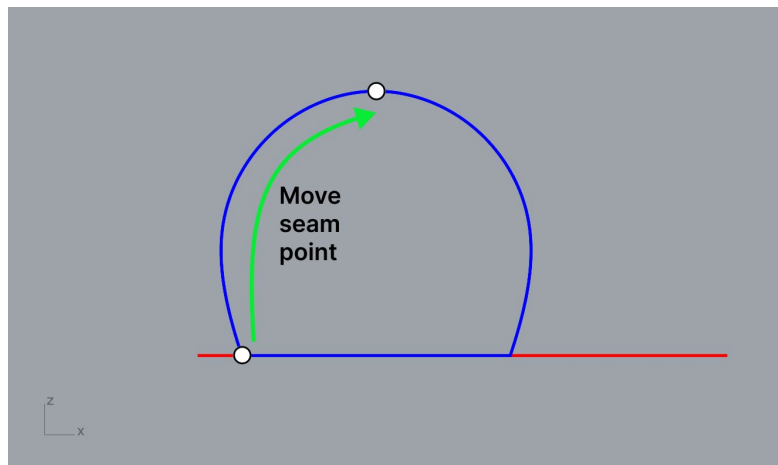
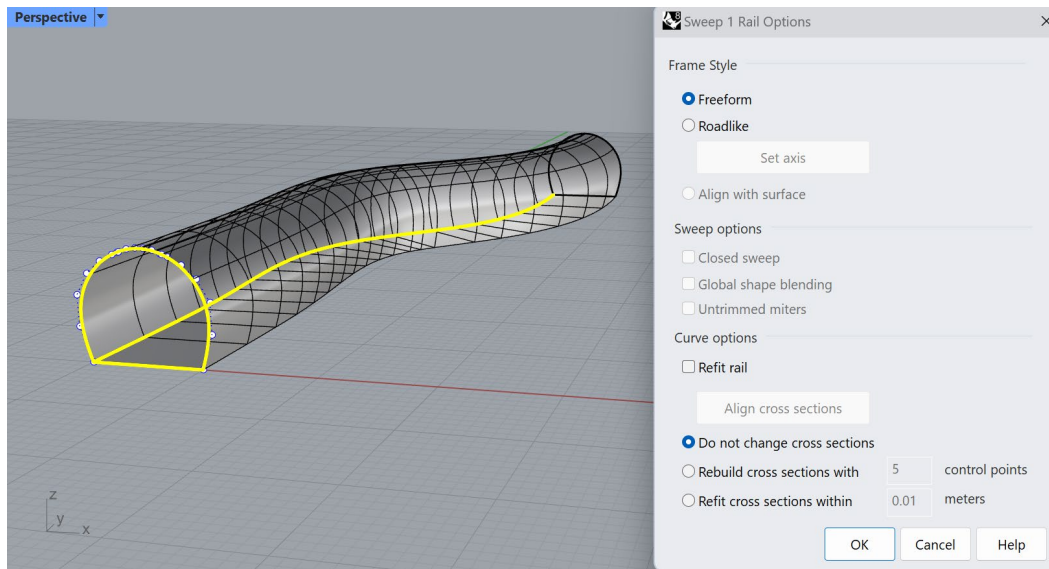

Figure 52: Drag seam point to the top of the tunnel profile.
Figure 53: Creation of tunnel surface by sweeping the profile curve along the direction path.
8. Select the red curve (excavation direction), type the command **_Sweep1**, and select the single blue curve (tunnel profile) for the sweep shape. When offered to *Drag seam point to adjust*, drag it from the bottom-left corner of the tunnel profile to the topmost point of the profile and press **Enter** (maximize *Front* viewport for ease of dragging the seam point; this can be done while the command is active; Figure 52). It is important to move the *seam point* from the corner to create the proper geometry suitable for **BlockRanger**. For other options in the **_Sweep1** command, use those shown in Figure 53.